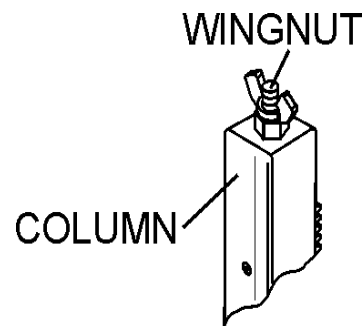

Figure 6. Wingnut Removal
4. Remove the wingnut located at the top of the column as shown in Figure 6.